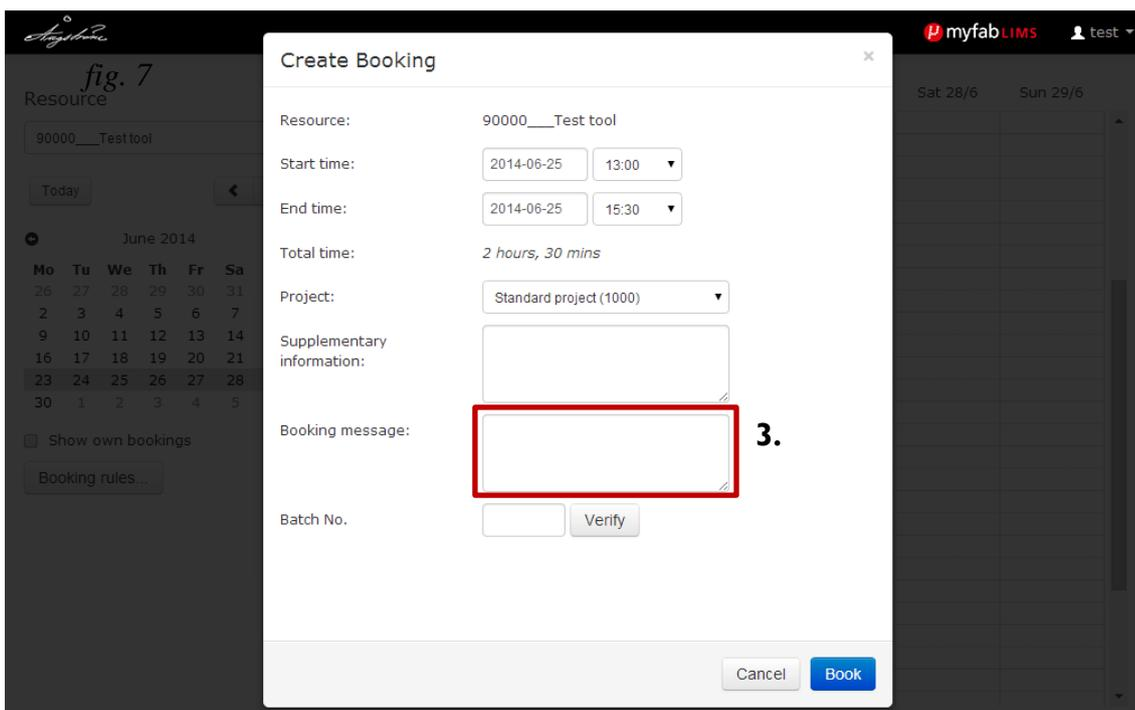

Fig. 9
Once you are licensed for a tool, it will show up in the *My licensed tools* pane on the front page. The easiest way to book a session is to click *Book* in the line of the equipment you are interested in. You will then get a window with a calendar as shown in Fig. 8. Use the menu on the left (1) to navigate the calendar, and when you find a free spot, click and draw to choose how long you want the session. Then double click on it (2) to edit and save it as shown in Fig. 9.
When you double click on the new entry, you get this screen (Fig. 9):